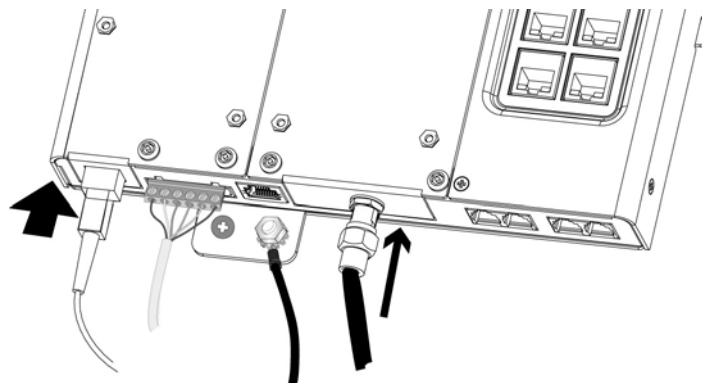

Figure 21. Connecting the Coax cable
- I. Connect the coax cable to the HPNA card, as shown in Figure 21